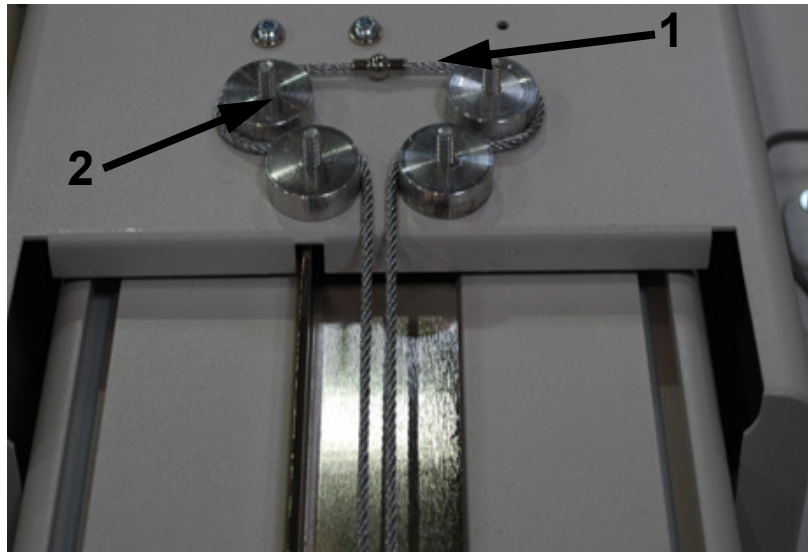

Figure 6-2. Cable End Disks
- 4 Unwrap the cable (1 in Figure 6-2) from around the disks (2).